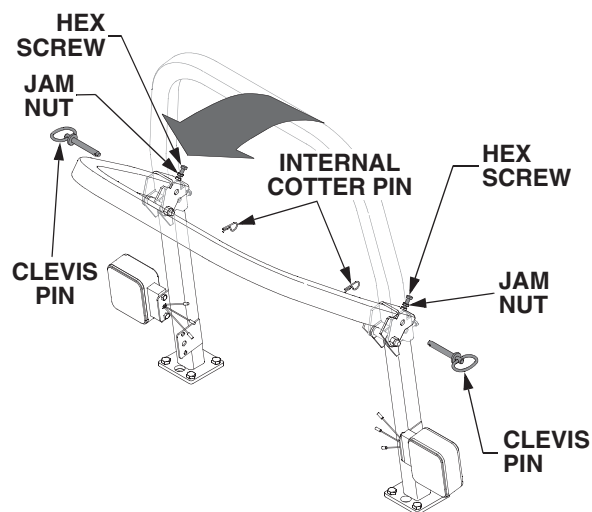

Figure 13
- Slightly loosen the two hex jam nuts on the two hex screws in the front of the upper ROPS. Loosen the hex screws to relieve their pressure on the ROPS. See Figure 13.
- Remove the two internal cotter pins, and, while supporting the ROPS, withdraw the clevis pins. See Figure 13. Carefully lower the ROPS.